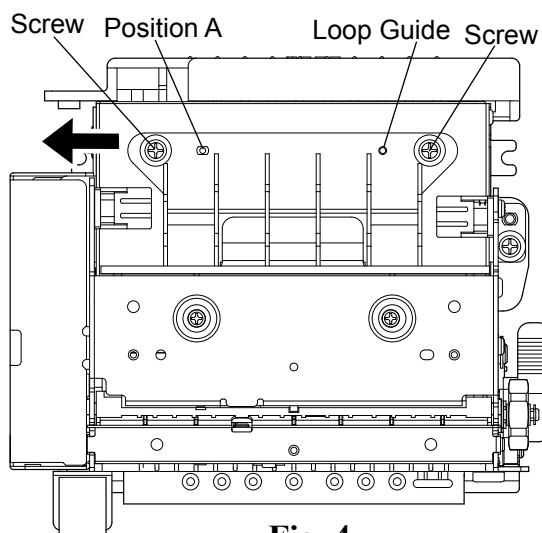

Fig. 4
1. Loosening the retaining screw next to position A (Fig. 4).
2. Move the Loop Guide in the direction of the arrow (Fig. 4).
- 2) Remove the Loop Guide (and store it for use) by removing the two retaining screw's (Fig. 4).